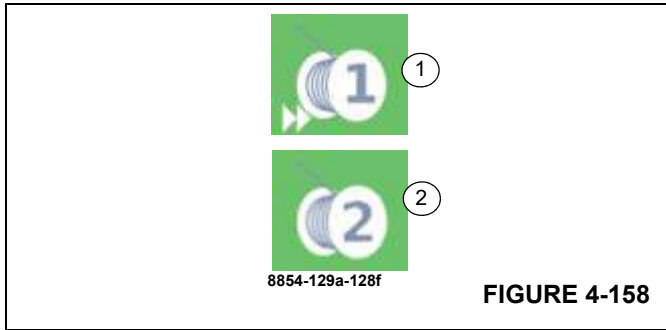

FIGURE 4-158
On:	(1), (Figure 4-158) High-speed mode switched on